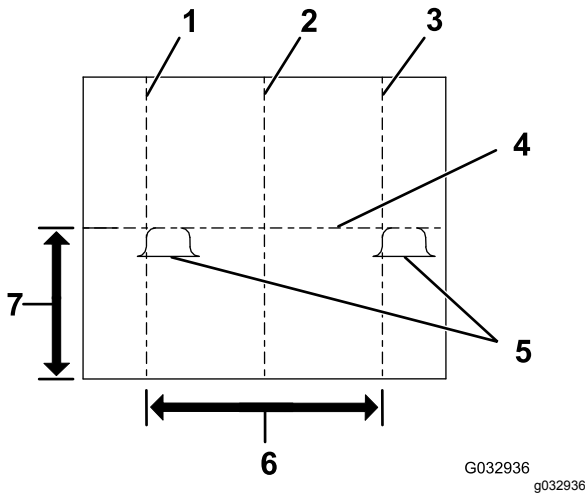

Figure 48
4. Mark the vertical vehicle centerline on the screen (Figure 48).
5. Mark the vertical headlight centerline on the screen (Figure 48).
6. Mark the horizontal headlight centerline on the screen (Figure 48).
7. Adjust the plow headlights until the brightest part of the plow low-beam lights are aligned as shown in Figure 48.